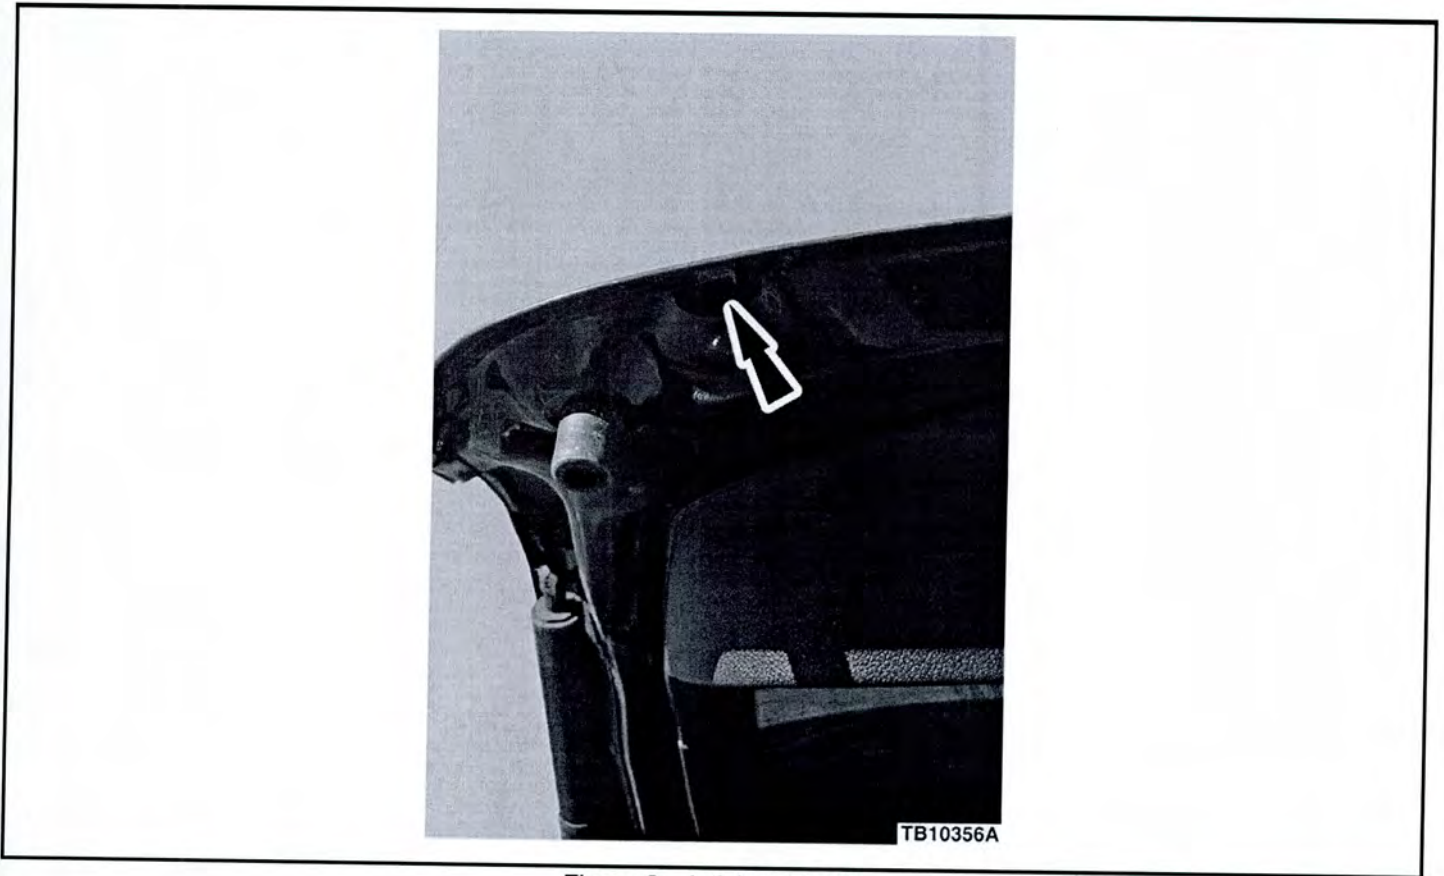

Figure 2 - Article 14-0130
5. Open the liftgate and inspect for the presence of drain valves in the two (2) drain holes on the left and right side of the liftgate. Are the drain valves present? (Figure 2)
6. Install a new drain valve in each of the two (2) drain holes on the left and right side of the liftgate. (Figure 2)